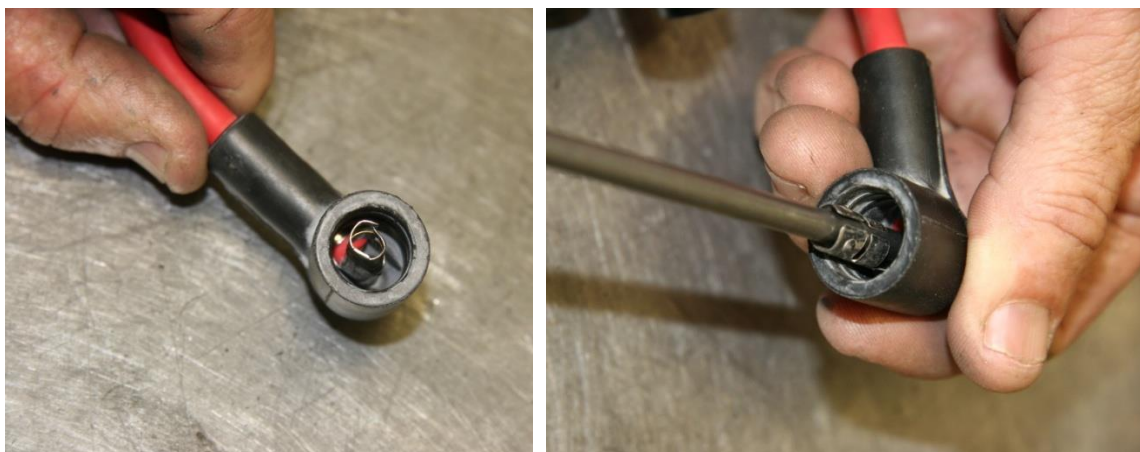

Figure 6 – Adjusting High Tension Lead Caps
- If the fit is loose or if the contact is visibly damaged as shown in Figure 6 then a screwdriver or similar must be used to re-shape the contact (it should be round) and to re-size it for a better fit – for a spark plug the diameter of the contact needs to be reduced to tighten while for a distributor cap it needs to be expanded. Each cap should fit with a clear “click” as it connects to the distributor cap or spark plug. Take care not to over-bend and contact and replace any which are damaged.